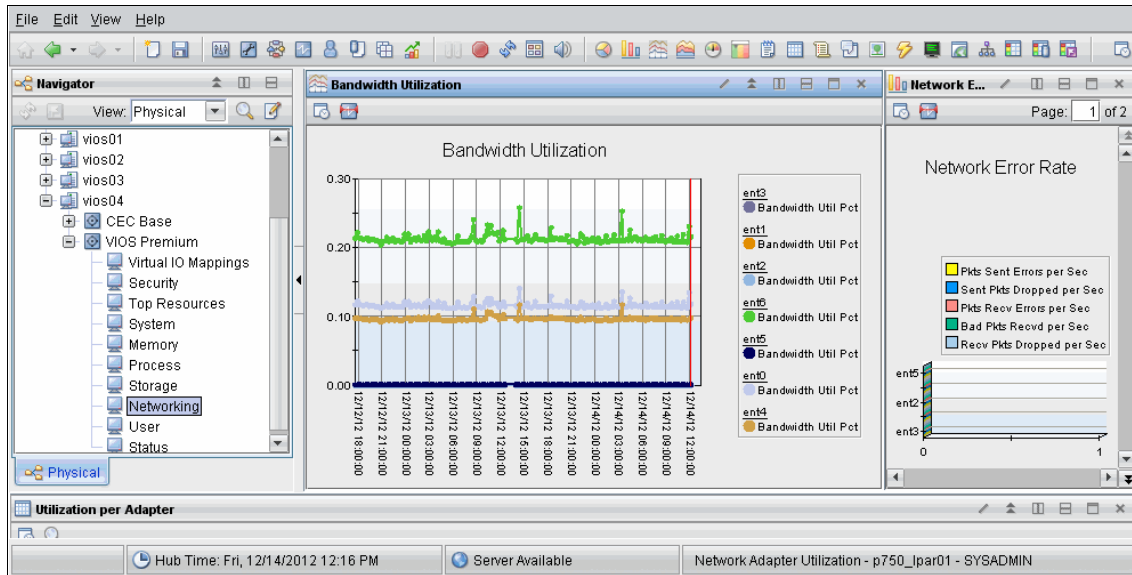

Figure 18-26 Historical data displayed for the bandwidth utilization chart
9. Click **OK** when done, and the chart is updated with the historical data for the selected time span, as shown in Figure 18-26.